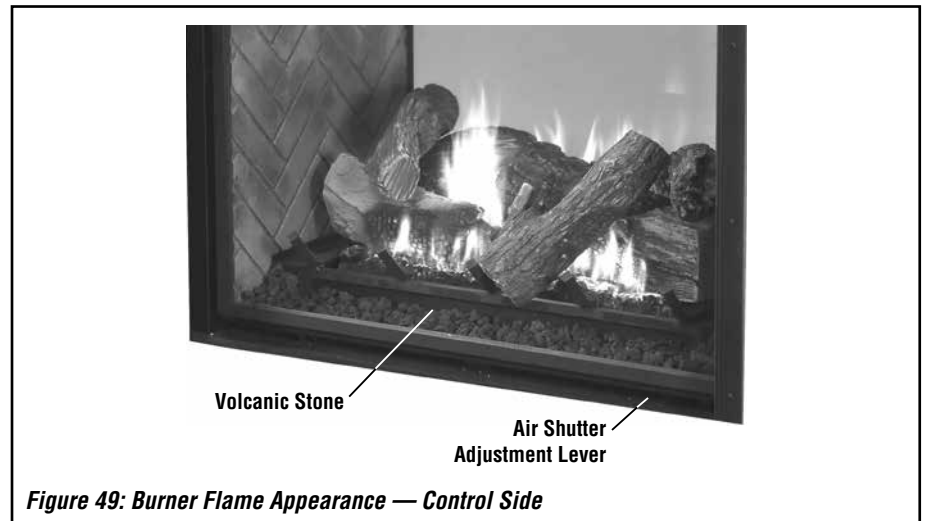

Figure 49: Burner Flame Appearance — Control Side
2. Allow the burner to operate for at least 30 minutes while continuously observing the flame to ensure that the proper flame appearance has been achieved (see *Figures 49 and 50*).
3. Adjust the air shutter using the lever on the lower right side of the firebox on the control side (*Figure 49*).
Note: See Figures 49 and 50 for proper burner flame appearance.